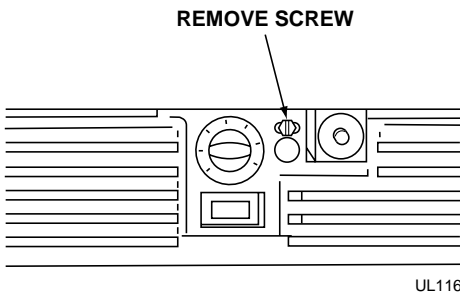

Figure 13
1. Remove grill (1 screw). See Figure 13.
- Remove grill (1 screw). See Figure 13.